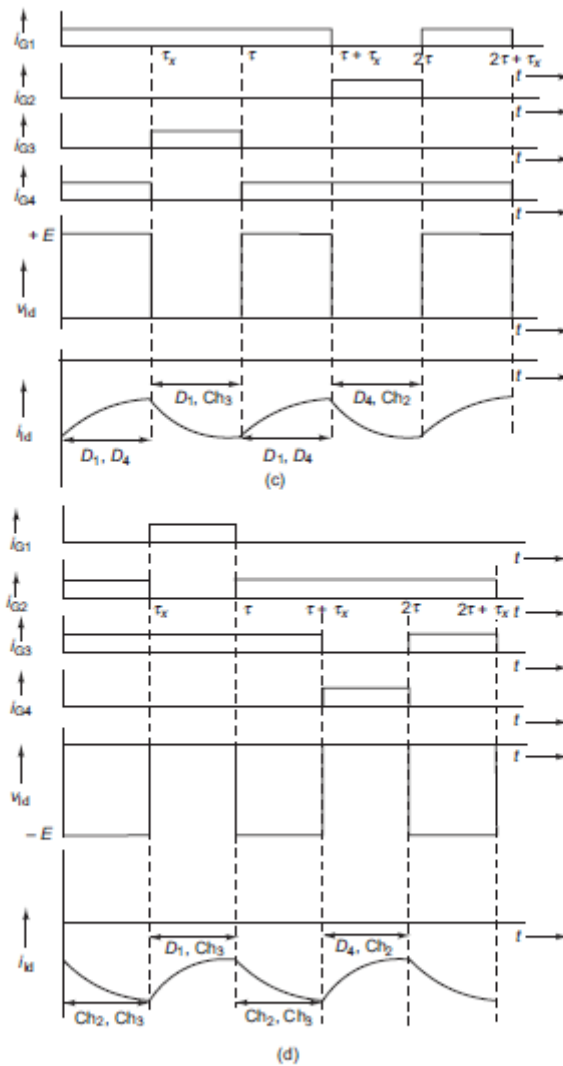

**Figs 3.18(a) and (b)**
**Method 3** This method consists of operating the same combinations of chopper pairs, as in method 2, to provide four-quadrant operation. However, the chopper pairs are controlled in such a way that if one of them conducts during some interval, the other pair is off. The waveforms for the first, fourth, second, and third quadrants are given, respectively, in Figs 3.18(a), (b), (c), and (d).
**Fig. 3.18** Waveforms for four-quadrant chopper operation (method 3): (a) first-quadrant operation, (b) fourth-quadrant operation, (c) second-quadrant operation, (d) third-quadrant operation